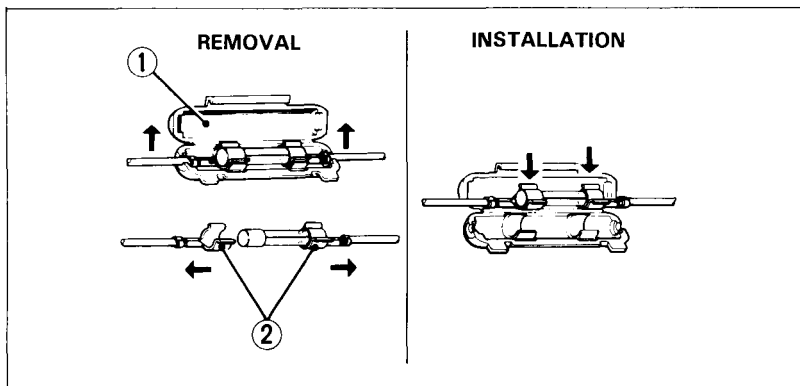

Fig. 4-20
2. Open the fuse holder (Fig. 4-20) and lift out the fuse with the clips (2).